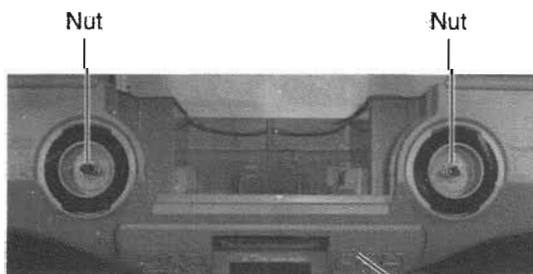

Fig.17 Key panel
■ Key panel ass'y removal (See Fig.17, 18)